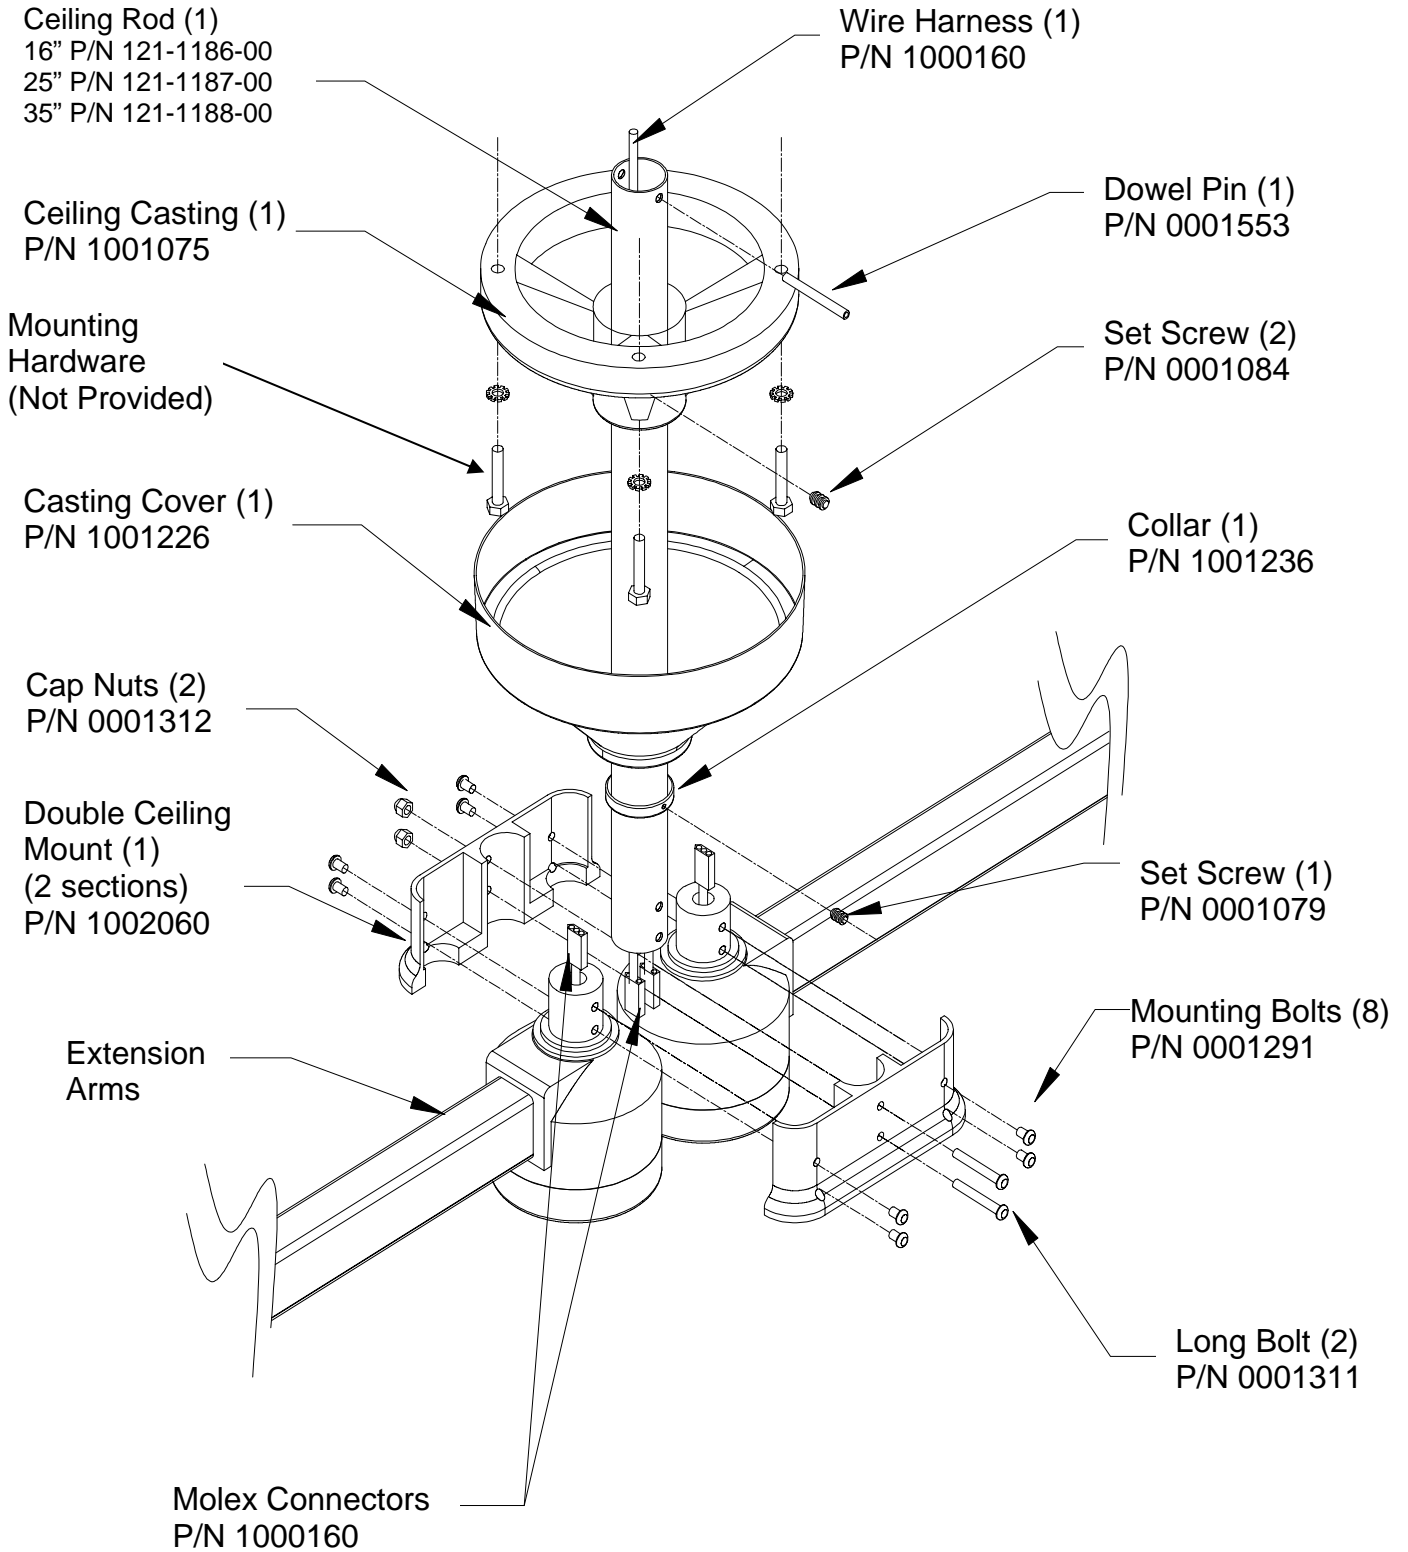

FIGURE 9: Double Ceiling Mount Installation
- Insert the ceiling rod up through the ceiling casting until the hole in the ceiling rod becomes visible (see figure 9). Insert the dowel pin into the hole in the ceiling rod and lower the rod in the ceiling casting, making sure the pin is seated securely in the indentation on the ceiling casting. Securely tighten the two set-screws located in the casting.
- Position the two extension arms as shown in figure 9 to allow easier mounting of the remaining double mount section. Firmly press the fastened double ceiling mount section against the ceiling rod. While firmly holding the double ceiling mount section in place, remove only the cap nuts from the 2" long bolts. It is strongly recommended that a second person hold the arms in place while the nuts are removed. Place the remaining double ceiling mount section onto the bolts. Be sure the wires are enclosed within the wire channel to avoid pinching them. Replace the cap nuts and fully tighten. Install the remaining four  $\frac{3}{8}$ " long mounting screws and then fully tighten all eight screws.